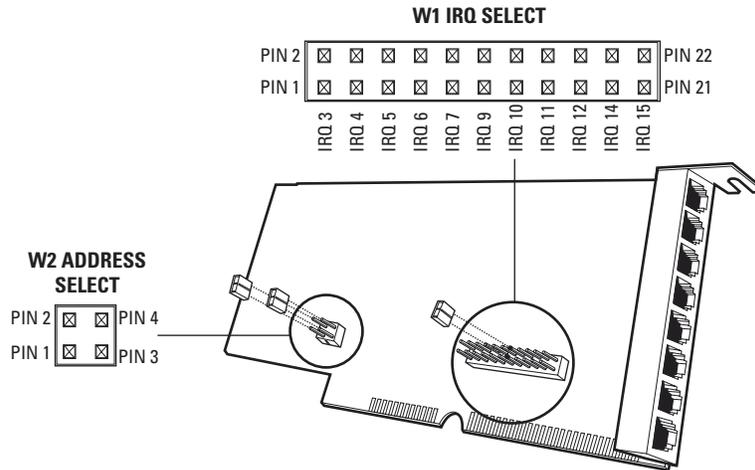

Figure 37. SER Card Jumper Assignments
3. Set the W1 interrupt (IRQ) and W2 address select jumpers on the SER card. Refer to Figure 37.